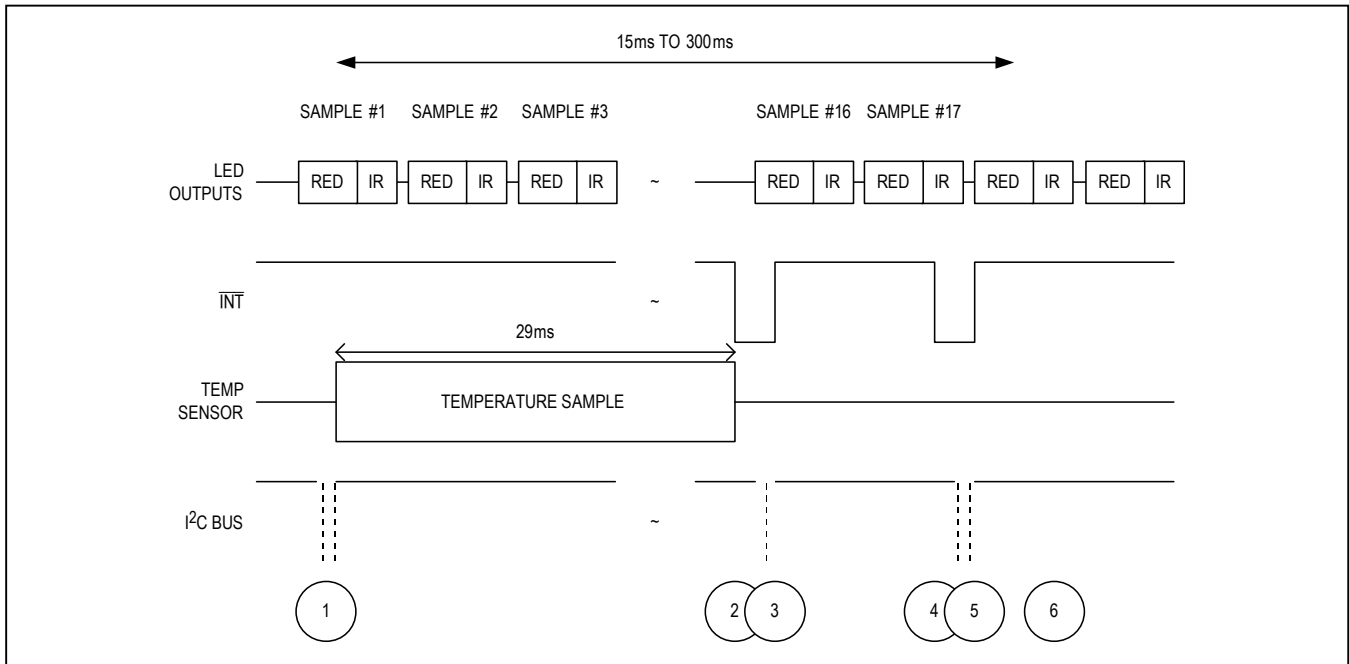

Figure 4. Timing for Data Acquisition and Communication When in Particle-Sensing Mode Using 2 LEDs
The internal FIFO stores up to 32 samples, so that the system processor does not need to read the data after every sample (Figure 4).
**Table 15. Events Sequence for Figure 4 in Particle-Sensing Mode Using 2 LEDs**